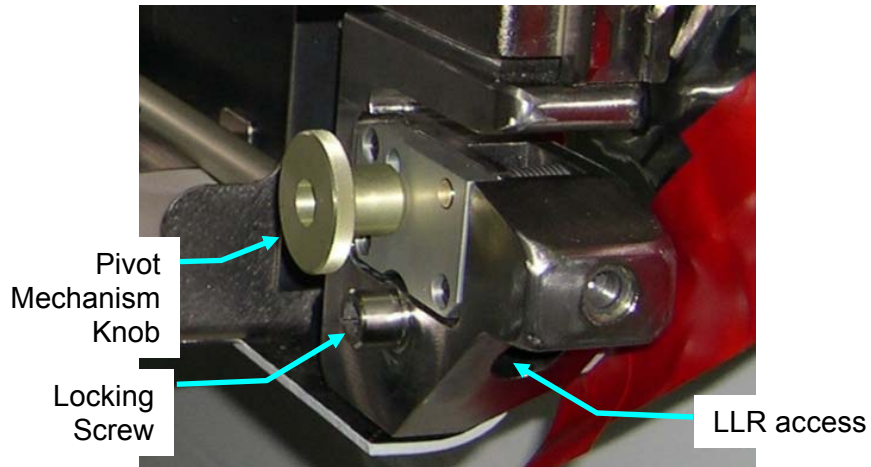

Figure 7.- WRS-2 Pivot Mechanism and Lower Launch Restraint (LLR), Right Side.
8.3 Loosen Mechanism Knobs so they are free to move. Refer to Figure 7.